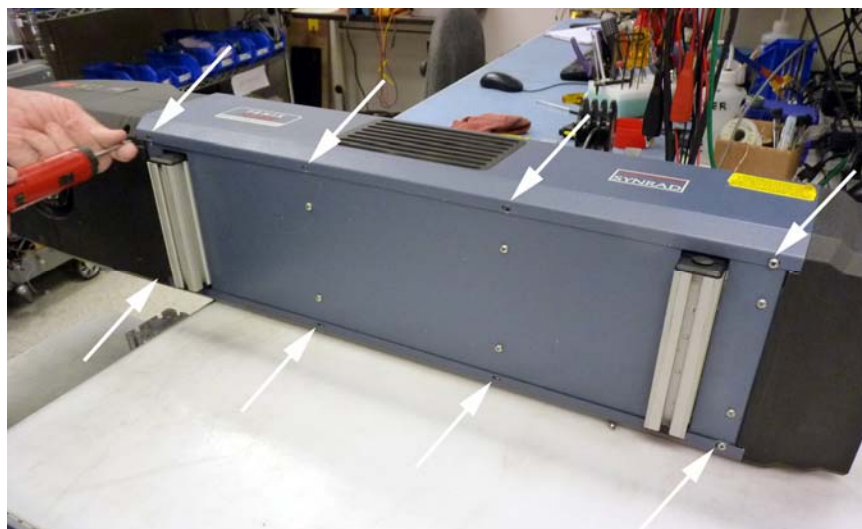

Figure 1 Remove cover fasteners
- 1 Position the Fenix Flyer marker as shown in Figure 1 and remove the eight pan-head Phillips screws fastening the main cover to the chassis.